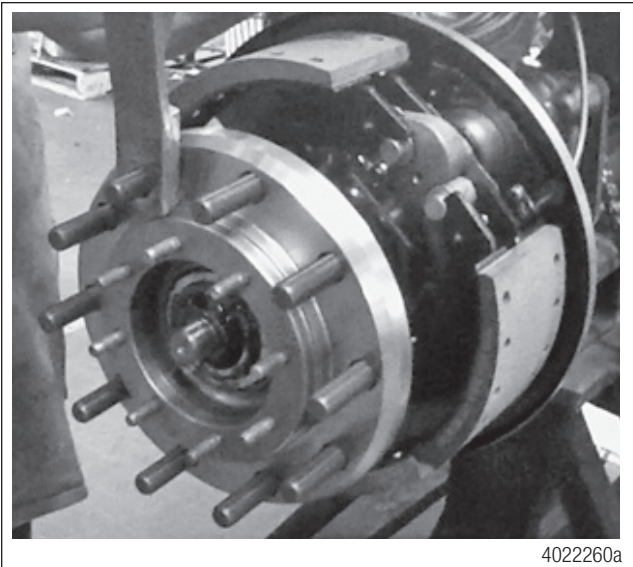

Figure 25
3. Install the greased outer bearing into the hub assembly. Ensure that it is correctly seated. Figure 25.